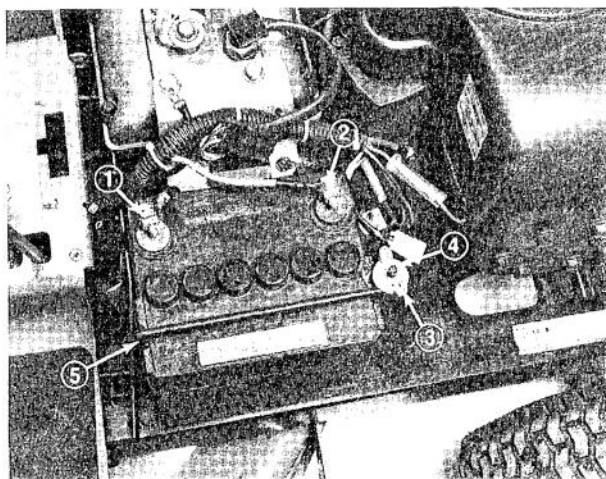

Figure 3
1. Remove nut holding the black, negative cable to negative battery terminal and slide cable off bolt (Fig. 3).
2. Remove nut holding the red, positive cable to positive battery terminal and slide cable off bolt (Fig. 3).
3. Remove wing nut from support rod; then slide support rod and battery clamp out of holes in chassis (Fig. 3). Lift battery off chassis and set it aside.
2. Connect the red, positive cable to positive battery terminal with bolt and nut (Fig. 3). Tighten nut securely.
3. Connect the black, negative cable to negative battery terminal with bolt and nut (Fig. 3). Black cable must be routed under main wiring harness. Tighten nut securely.